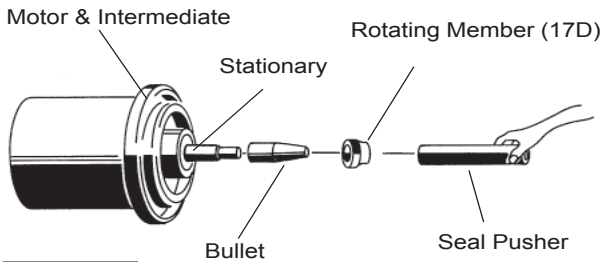

**FIGURE 6**
**Outer Seal** - Clean and oil seal cavities in seal plate (**DO NOT remove seal plate**). Lightly oil (**DO NOT use grease**) outer surface of stationary member (17a). Press stationary member (17a) firmly into seal plate, using a seal pusher (see parts list- seal tool kit). Nothing but the seal pusher is to come in contact with seal face (see Fig. 6).